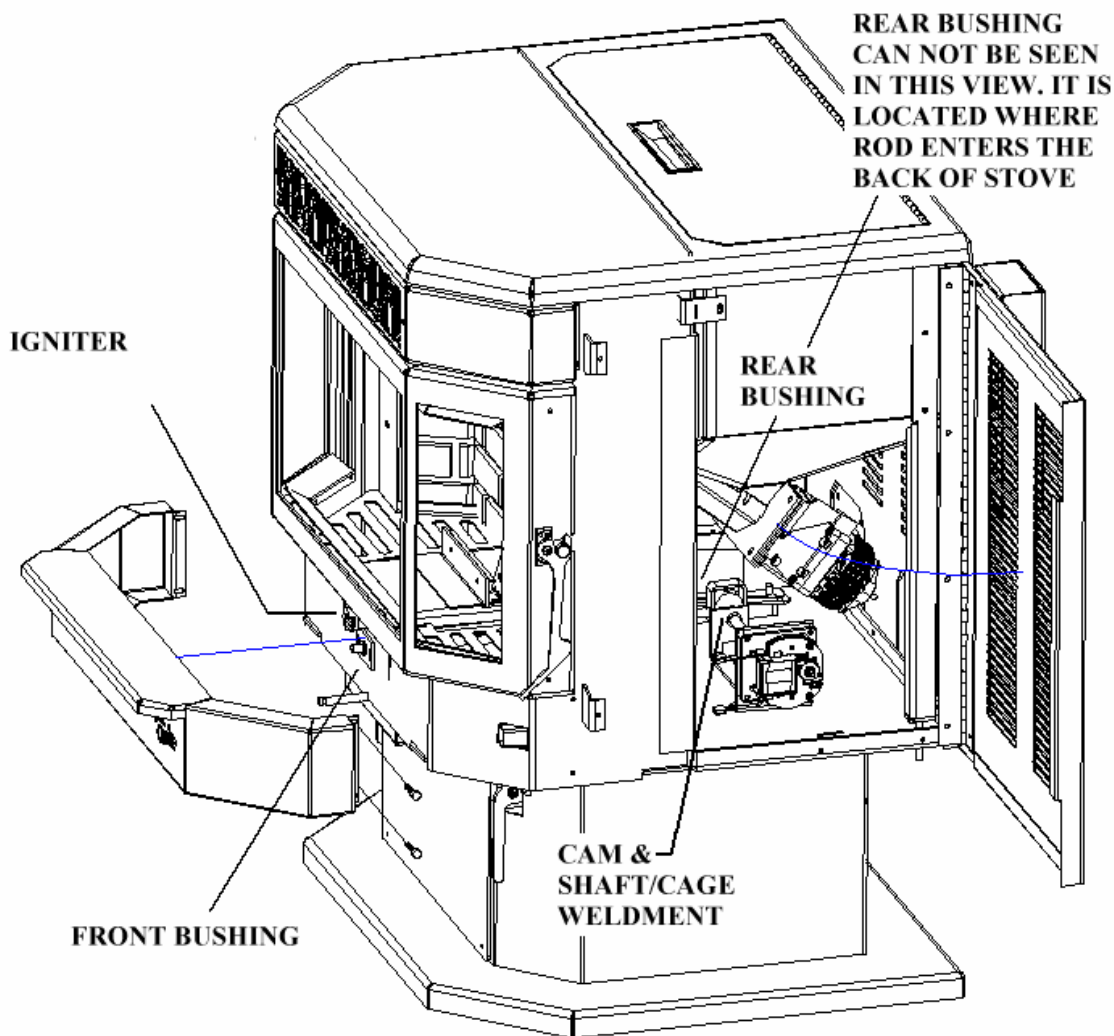

Figure 10
5. The Versa Grate System needs to be lubricated once a year with some High Temp Anti Seize to prevent the parts from “squealing” add some Anti-Seize to the Cam and Rod at both bushings. To gain access to the Versa Grate System in the Afton Bay open the right side panel when facing the stove. To locate the Rear Bushing assembly, follow the rod from the Shaft/Cage Weldment towards the front of the stove. The front bushing is located below the igniter in the front of the stove. Remove the ash lip cover as shown in figure 10.